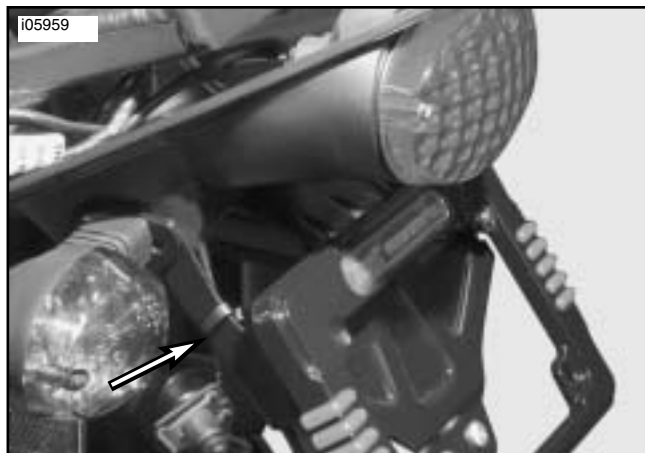

Figure 6. Securing Wire to License Plate Bracket (Firebolt)
11. See Figure 6. Using a cable strap, secure the wire to the license plate bracket.